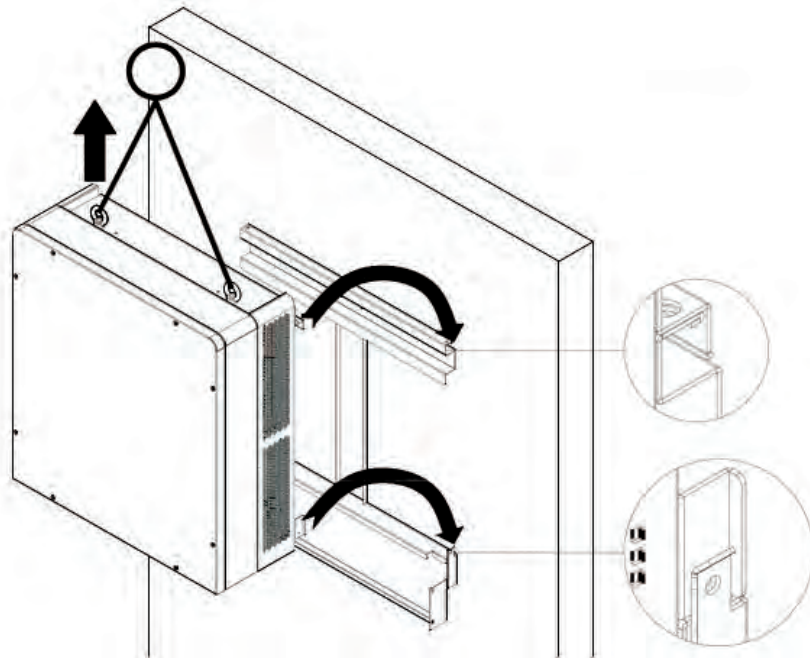
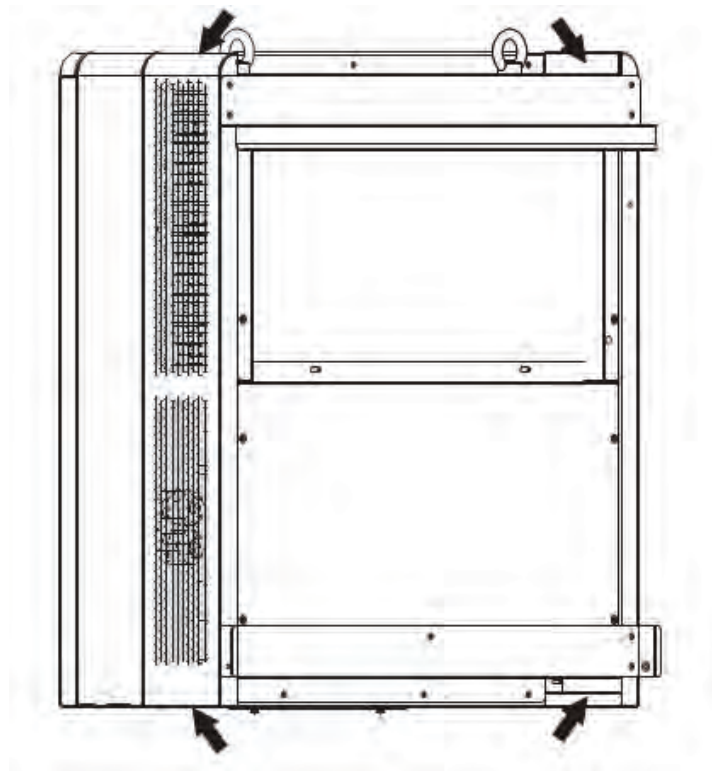

Figure 3-7 Mount the main housing on the bracket by lifting
Figure 3-8 Position of grab handle
(3) Hang the inverter onto the mounting bracket as shown in Figure 3-7 and Figure 3-8:
Manual mounting: Two people grab the handle positions marked in Figure 3-8, and mount the inverter onto the bracket.